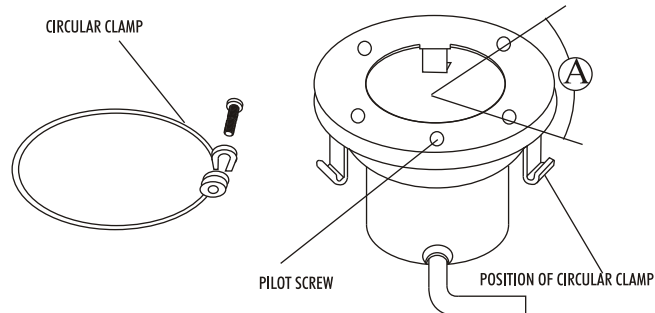

Figure 2
- With the bent ends of the circular unitension clamp pointing down spread the clamp and place it in the "U" recesses of the locking levers. Ensure that the bent ends of the clamp are located between the pair of locking levers as shown in Figure 2, location A Check to see that the clamp is properly engaged with all of the levers; see Figure 2.